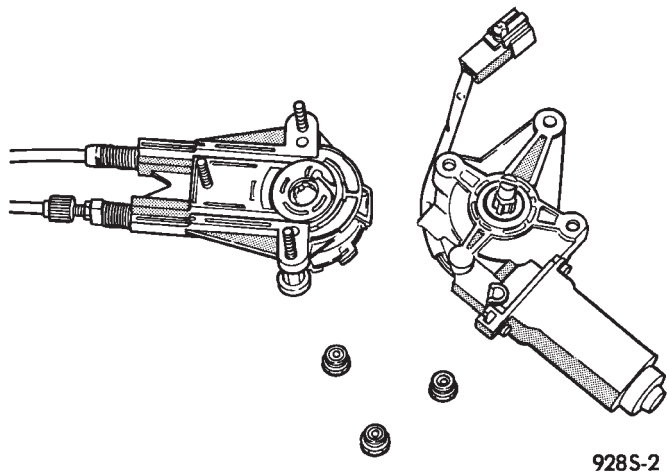

Fig. 17 Cable/Drum and Motor
(6) Make sure motor is facing you before separating motor from housing.
(7) Using a flat tool slowly separate motor from housing, making sure the cable drum under the motor stays in cable housing. When motor is fully separated the assist spring will be completely unwound (Fig. 17).